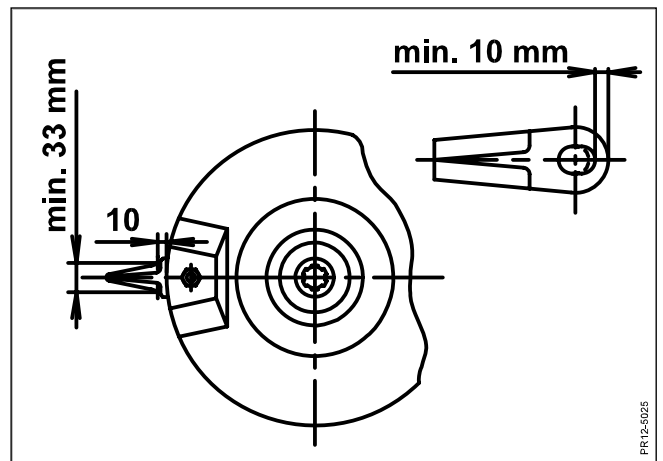

Fig. 5-5
- Fig. 5-5 Blades must be replaced if: